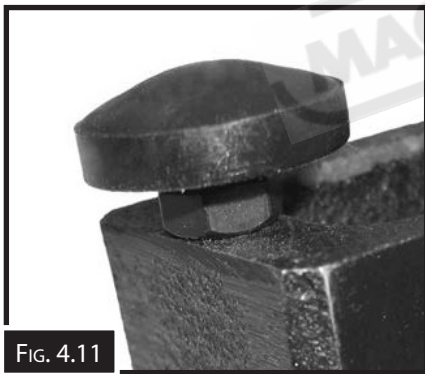

FIG. 4.11
4. Adjust the rail pad screw on the back end of the fence to and check that the fence locks at both ends. (Fig. 4.11)